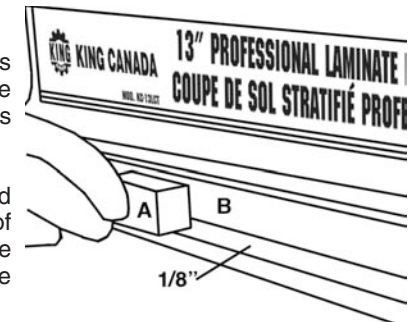

Figure 6
With the knife (B) Fig.6 installed and positioned roughly 1/8" above the table top, lay the flat side of your honing stone (A) against the flat side of the knife. Move the honing stone from one end to the other a few times until burr has been removed.